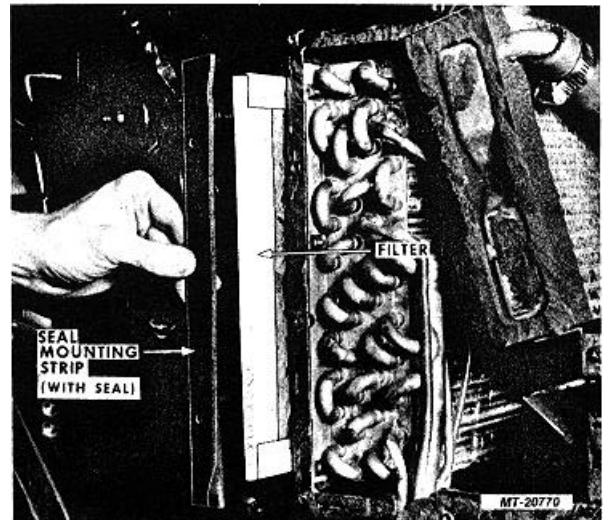

Fig. 34 Replacing Air Filter
3. Remove seal mounting strip (with seal) from blower housing (Fig. 34).